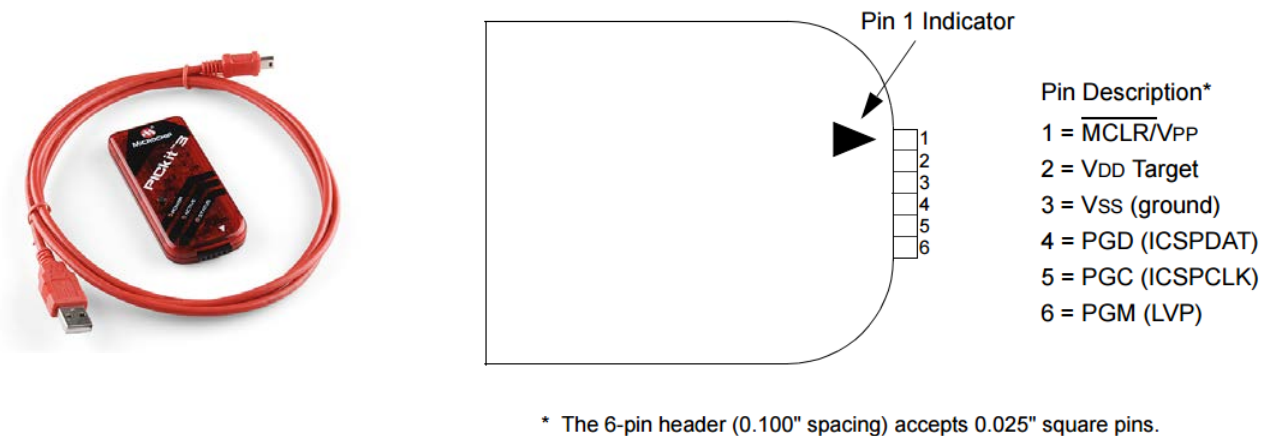

Figure 4.1. Pickit3 and its pin out.
- **Pickit3 and USB connector (as shown in Fig. 4.1)**, which should be in a small plastic bag (snack size bag). Your group should pick up a bag. The bag should also contain some wires that are used to connect the Pickit3 with a protoboard.
Step 1. First go over Figures 4.1, 4.2, 4.3, and 4.4.
Figure 4.1 shows the six connections of the Pickit3: